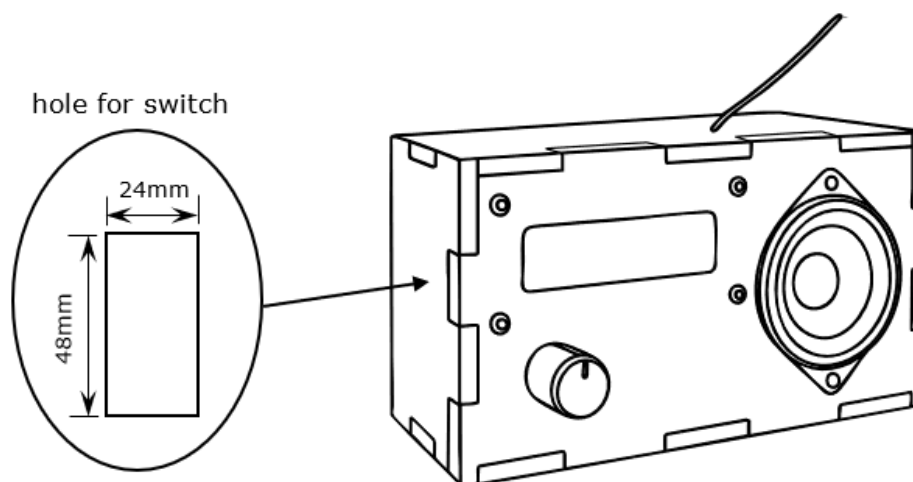

Figure 5
11. Figure 5 shows a concept design of a radio which shall be manufactured using a laser cutter.